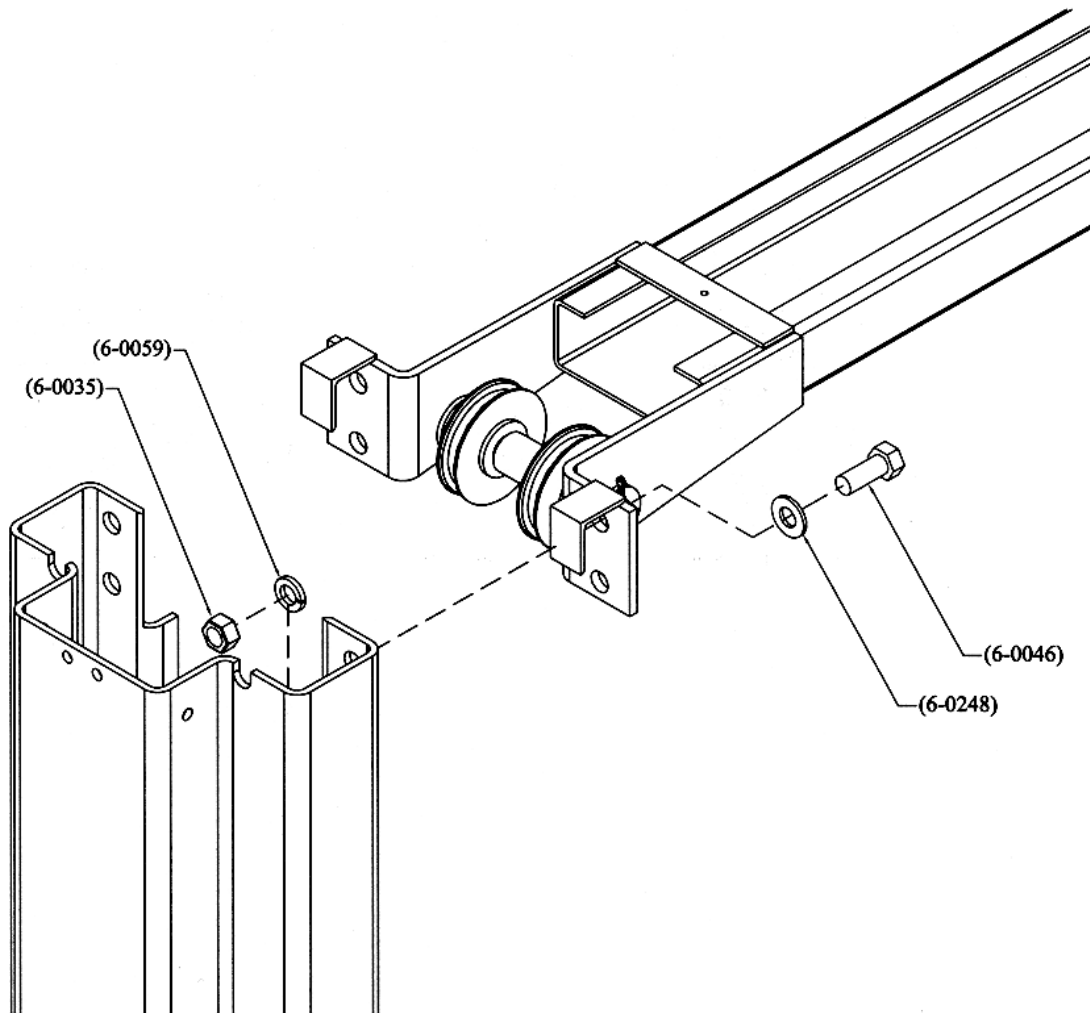

Figure 5 – Crossmember Assembly
2. Using a stepladder, install the crossmember using eight (8) $\frac{1}{2}$ "-16UNC x $1\frac{1}{4}$ " lg. hex head bolts, eight (8) $\frac{1}{2}$ " ID lock washers, eight (8) $\frac{1}{2}$ " hex nuts and eight (8) $\frac{1}{2}$ " flat washers. See **Figure 5**